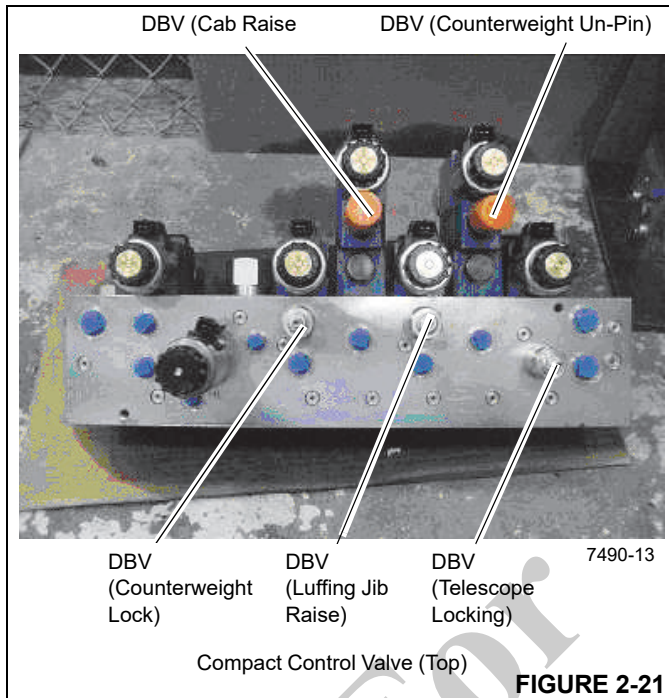

FIGURE 2-21
11. Adjust the pressure at DBV (telescope locking) on the compact control valve (Figure 2-21) to 1450 ± 25 psi (100 ± 2 bar).
7. If necessary, adjust pressure at DBV (counterweight lock) to 2393 ± 50 psi (165 ± 4 bar) (Figure 2-21).
5. If necessary, adjust pressure at DBV (cab raise) to 1378 ± 25 psi (95 ± 2 bar) (Figure 2-21).
5. If necessary, adjust pressure at DBV (luffing jib raise) to 4134 ± 50 psi (285 ± 4 bar) (Figure 2-21).
5. If necessary, adjust pressure at DBV (counterweight un-pin) to 1378 ±25 psi (95 ±2 bar) (Figure 2-21).